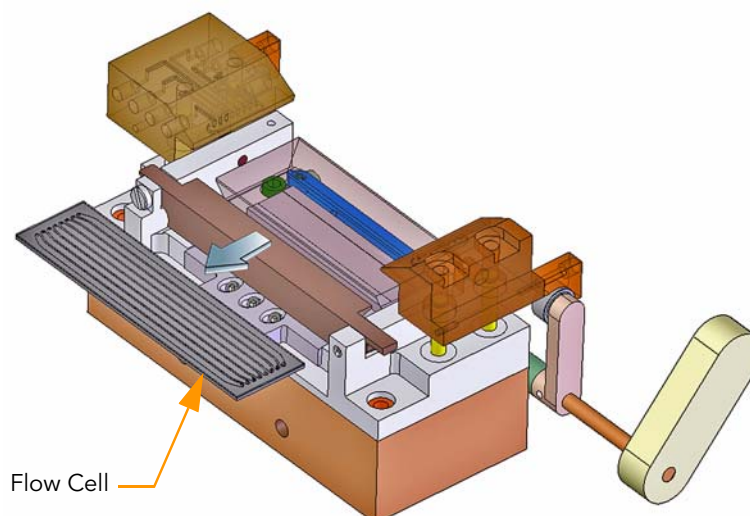

Figure 42 Remove the Flow Cell
7. Slide the flow cell to the left to clear the manifolds, and then lift it out of the instrument (Figure 42).